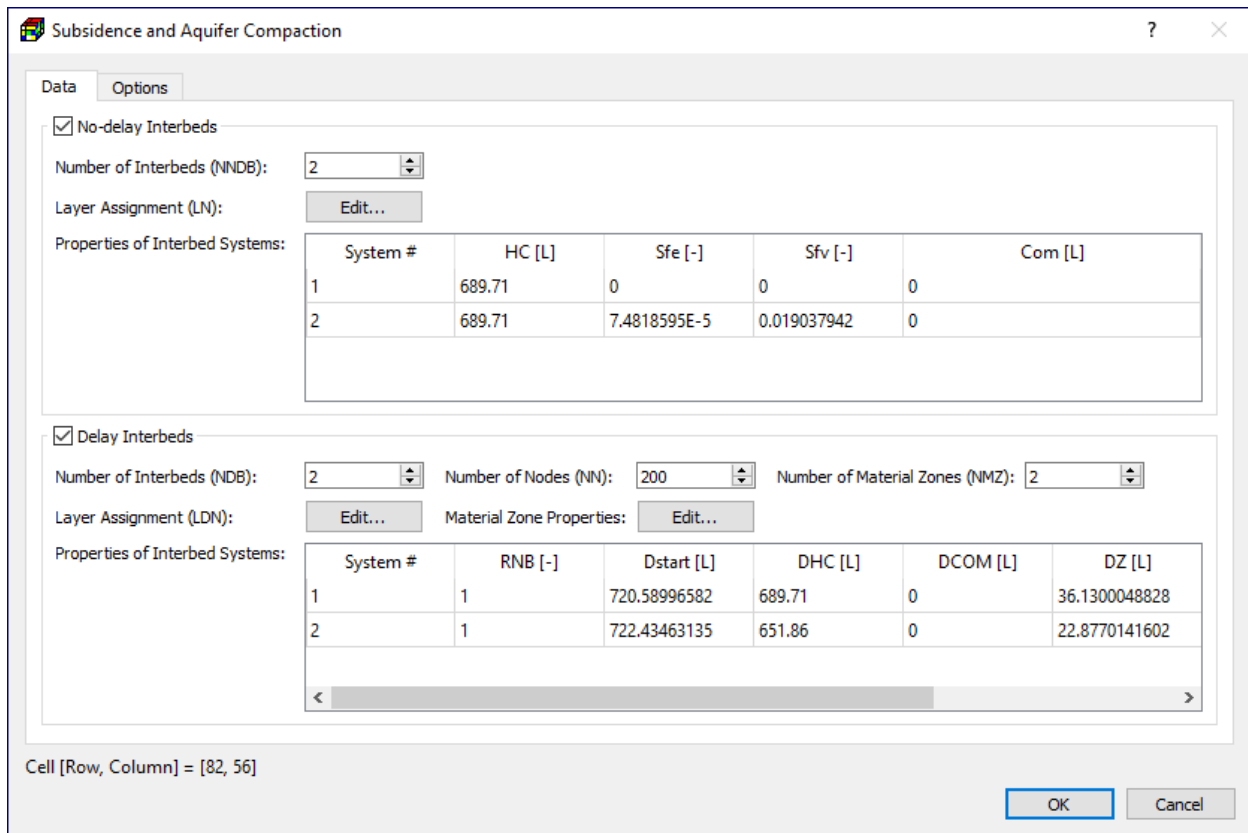

Figure 95. The Subsidence and Aquifer Compaction dialog box
1. **Cell-by-cell input method:** Figure 95 shows the dialog box for specifying cell properties.
- **Layer Assignment (LN):** Click the Edit button to open the Layer Assignment dialog box that allows you to assign systems no-delay interbeds to model layers.